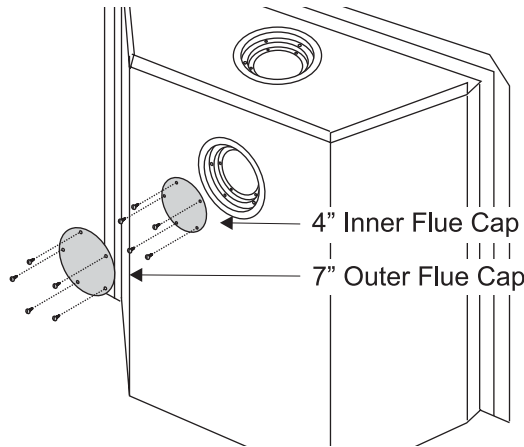

Figure 7a. Flue cap installation for Top Vented fireplace.
1. Install the 4" inner flue cap on the rear flue outlet and secure the cap in place with five screws, as shown in figure 7a.
2. Install the 7" outer flue cap on the rear flue outlet, and secure it with five screws, as shown in figure 7a.